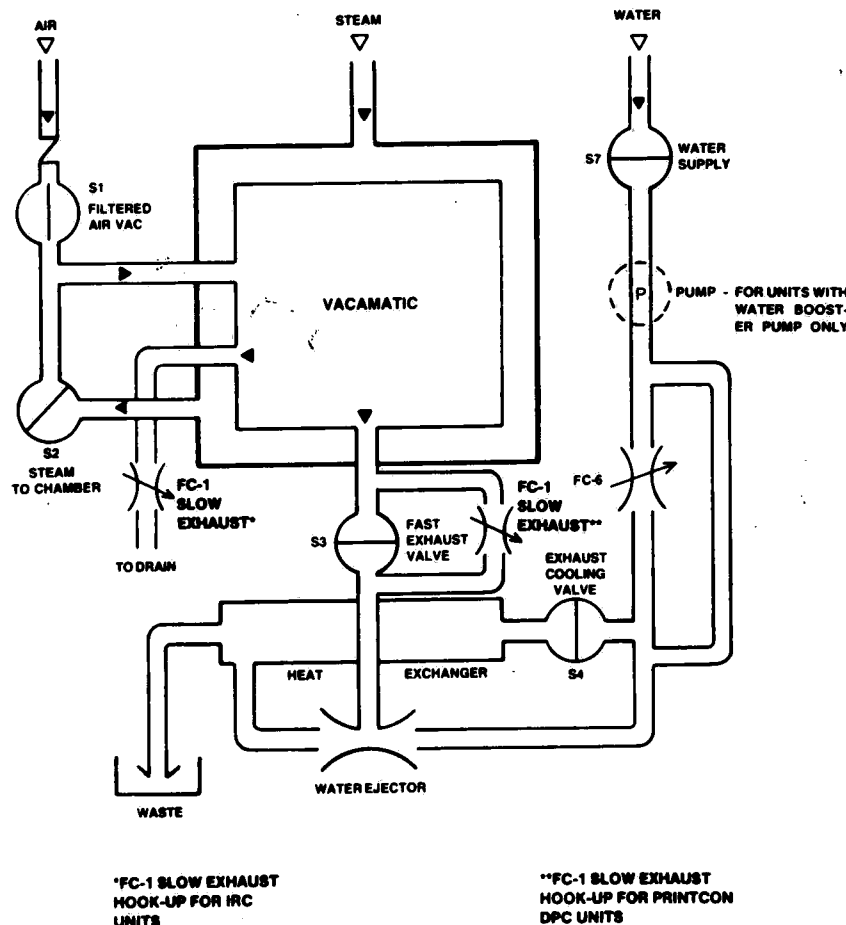

Figure 3-1. PIPING DIAGRAM: Vacumatic Sterilizer.
At the same time, the water supply valve (S-7) and exhaust cooling valve (S-4) are open. Opening these valves accomplishes two purposes: (1) the cooling water is circulated through the heat exchanger (see diagram, Fig. 3-1), cooling the exhaust steam sufficiently to keep the drain temperature below 140° F; (2) simultaneously, the cooling water passing through the water ejector and heat exchanger flows at a rate sufficient to create a suction at the drain, thus increasing the rate of air and steam flow through the chamber. Flow control valve FC-6 is manually adjusted to permit water flow at the optimal rate for the system. Because of flow resistance incorporated into the system design, the chamber pressure will rise to between 5 and 15 psig during this phase of the cycle.
During the "purge" at the beginning of the cycle, the air in the chamber is quickly displaced by steam. This is accomplished by simultaneously opening the steam-to-chamber valve (S-2) and the fast exhaust valve (S-3). At the same time, the water supply valve (S-7) and exhaust cooling valve (S-4) are open. Opening these valves accomplishes two purposes: (1) the cooling water is circulated through the heat exchanger (see diagram, Fig. 3-1), cooling the exhaust steam sufficiently to keep the drain temperature below 140° F; (2) simultaneously, the cooling water passing through the water ejector and heat exchanger flows at a rate sufficient to create a suction at the drain, thus increasing the rate of air and steam flow through the chamber. Flow control valve FC-6 is manually adjusted to permit water flow at the optimal rate for the system. Because of flow resistance incorporated into the system design, the chamber pressure will rise to between 5 and 15 psig during this phase of the cycle.
The Liquids cycle is identical to the Gravity cycle until the exhaust phase. When the sterilize phase of the cycle is complete, all solenoid valves are deenergized. Slow exhaust of the chamber is accomplished through the slow exhaust line (see diagram, Fig. 3-1), which allows a slow bleed out of the chamber. Slow exhaust rate is controlled by the manually set flow control valve, FC-1.